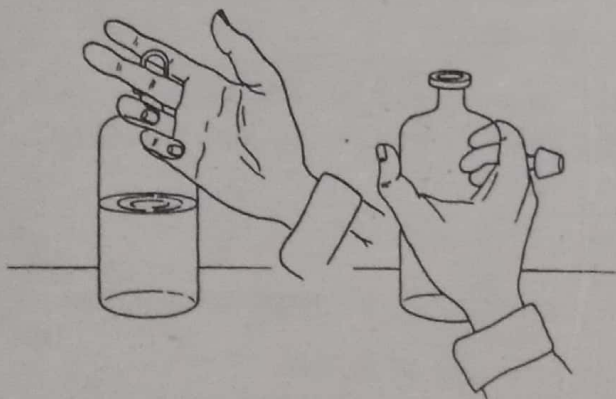
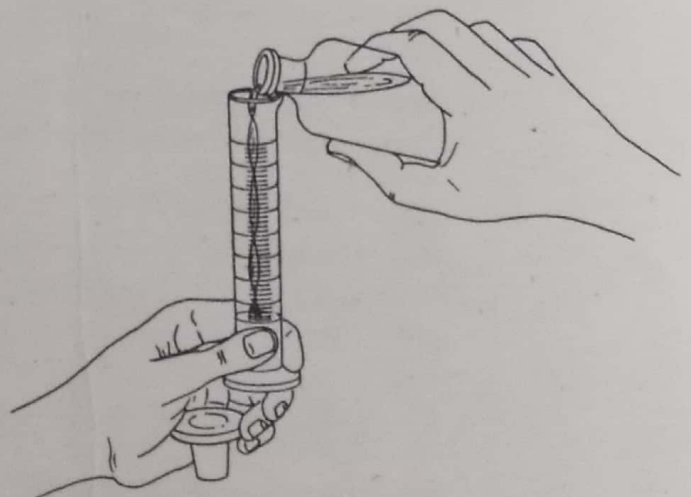

FIGURE 3.6
FIGURE 3.7
2. Grasp the stopper either between the second and third fingers as in Fig. 3.6 or between the palm and fingers as in Fig. 3.7.